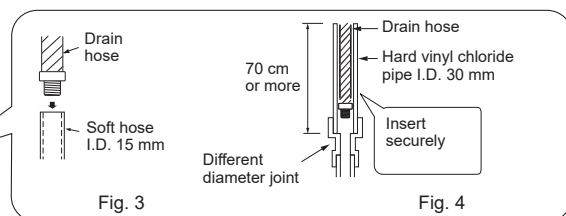

Fig. 3
- If the drain hose provided with the indoor unit is too short, connect it with drain hose (I) that should be provided at your site. (Fig. 3)